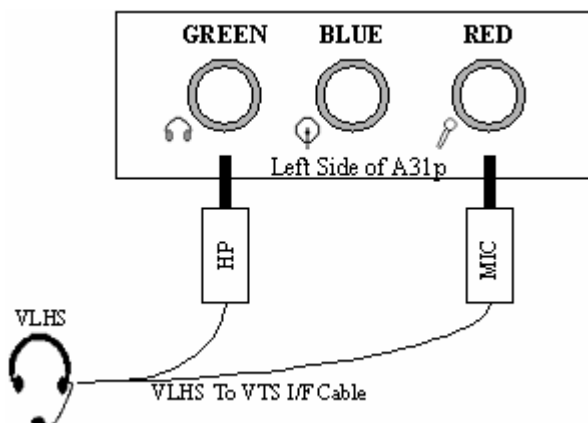

Figure 12-10.- Headset configuration.
3. Configure VLHS To VTS Interface Cable and VLHS as shown in figure 12-10
Connect cable's headphone and mic jacks to PGSC as shown in figure 12-10